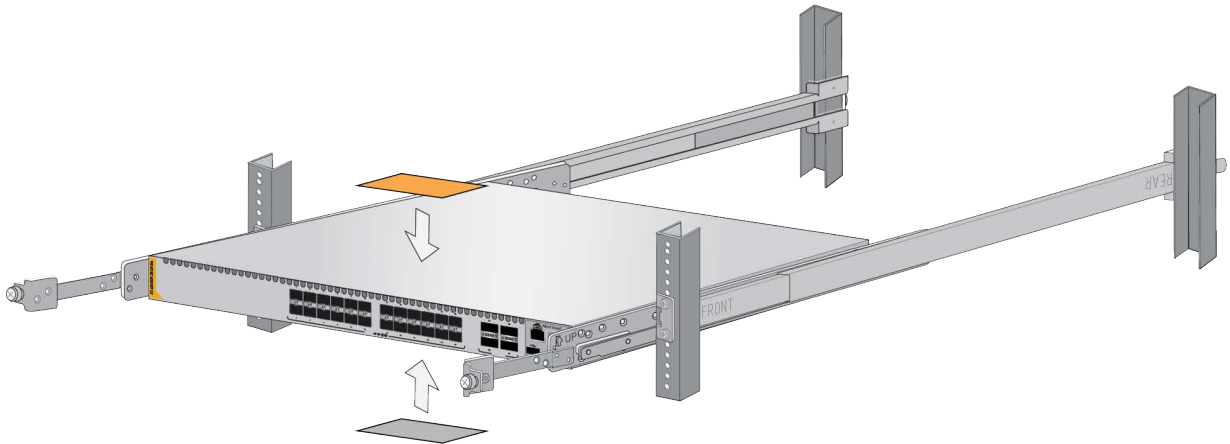

Figure 27. Affixing the Warning Labels
2. Affix the provided warning labels to the top and bottom of the switch, in locations immediately visible when removing the device from the rack. Refer to Figure 27 on page 37.